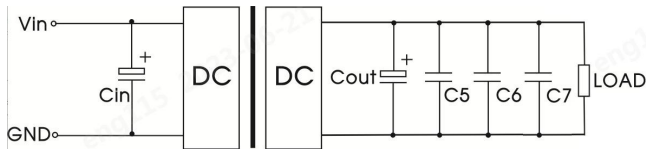

Fig. 2
① Output voltage accuracy for 0%-5% load is ±5% max;
② Load regulation for 0% -100% load increases to ±3%;
③ Under 0% -5% load conditions, ripple & noise does not exceed 5%Vo. By measuring method is used for Ripple and Noise test, please refer to Fig. 2. for recommended circuit.
All DC-DC converters of this series are tested before delivery using the recommended circuit shown in Fig. 2.
C12	Refer to the Cout in Fig.2
C13/C14	Refer to the C5, C6 in Fig.2